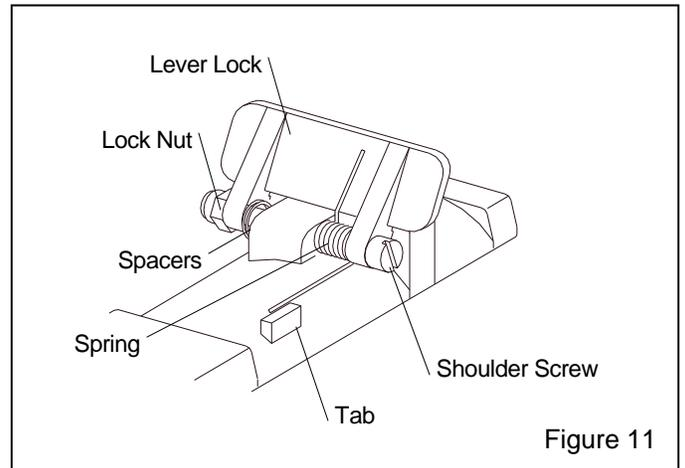

Figure 11
6.6.2 Lever lock replacement, Figure 11
6.6.2.1 Remove the lock nut from the shoulder screw. Before removing the screw, note the positions of the spacers and spring, as shown in Figure 11. The bent end of the spring is toward the inside and forcing the lever lock up. The straight end is toward the outside facing down and against the tab.